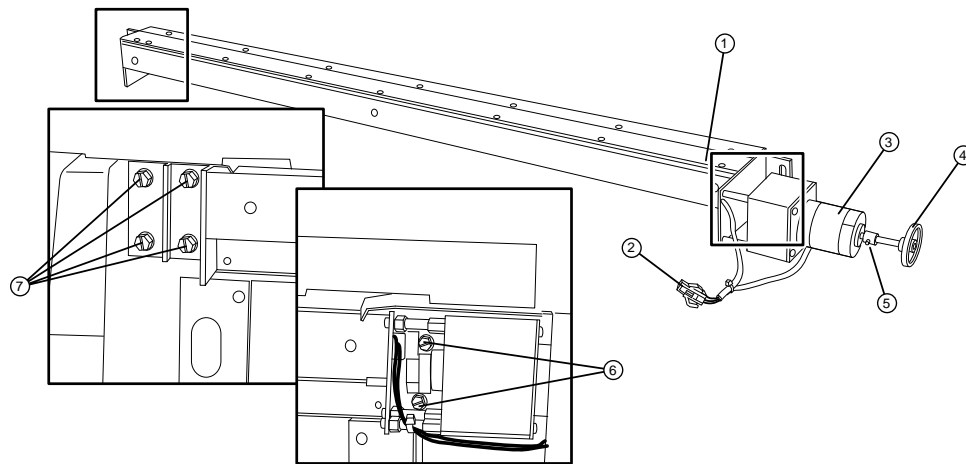

Figure 4-14 Take-up cutter assembly.
6. Disconnect the cutter motor/switch connector. Refer to Figure 4-14.
7. Open the bottom and top side doors on the right side of the imagesetter. Refer to Figure 4-8. Locate the manual cutter knob. Refer to Figure 4-14.
8. Using a 5/64" allen wrench, remove the two (2) set screws from the manual cutter knob. Refer to Figure 4-14. Remove the shaft.
9. Using a 5/16" nut driver, remove the four (4) hex screws on the left side of the cutter as follows:
- a. First remove the two (2) screws securing the left light seal to the cutter.
- b. Second, while supporting the cutter assembly with one hand, remove the two (2) remaining screws securing the cutter to the upper structure.